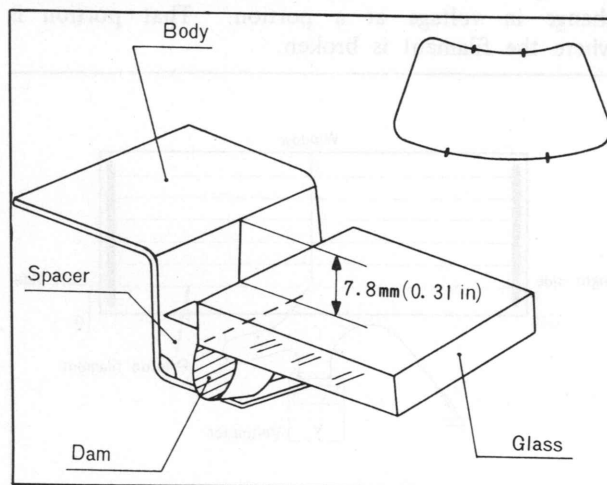

Fig. 14-29 Adjusting clearance
2. When installing the glass, 7.8 mm (0.31 in) clearance should exist between the body and the glass. Check the clearance at the four portions shown in Fig. 14-29.